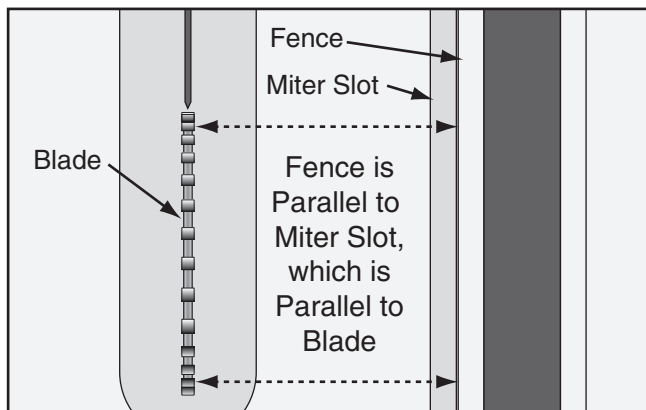

Figure 125. Checking fence parallelism with blade.
2. Slide fence against right edge of miter slot, lock it in place, then raise blade fully. Using a ruler, examine how fence lines up with miter slot and blade (see **Figure 125**).